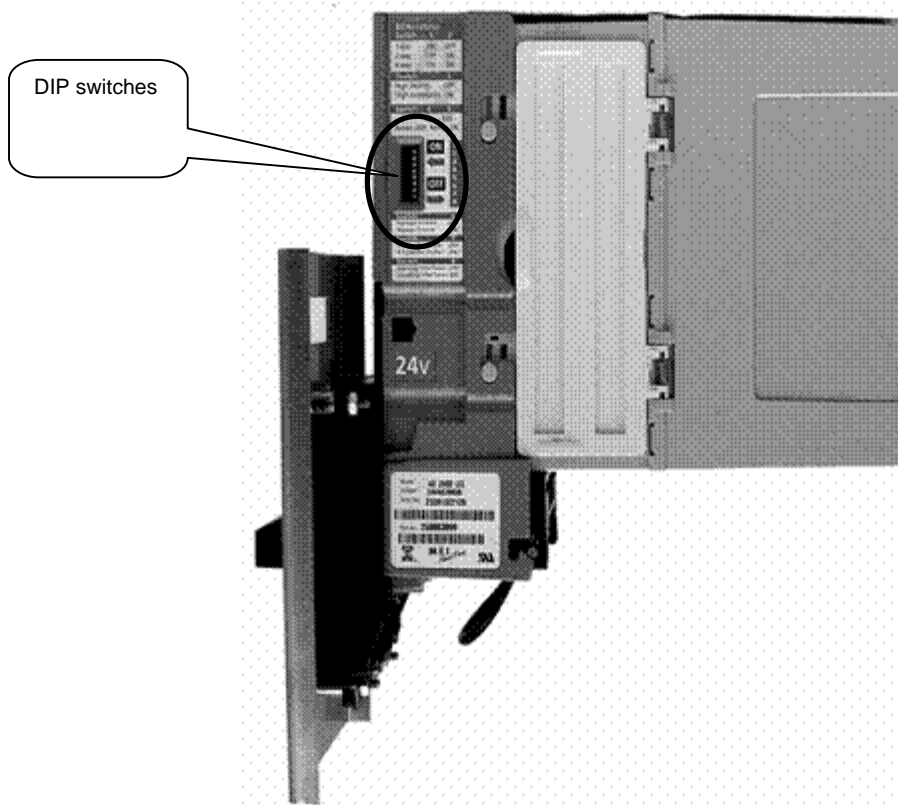

Figure 21. Mars DIP Switches
2. Referring to Table 22, use a small flat-head screwdriver to set the DIP switches for the options you prefer. (See Figure 21 for DIP switch location.)